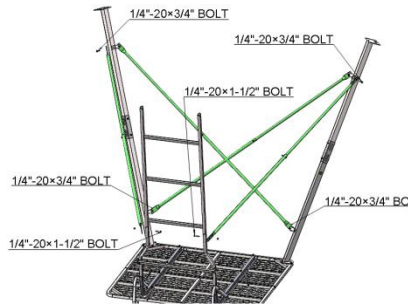

Figure 12
Step 12: Attach the four cross braces to the ladder section (TS305.02) and the leg by using two 1/4"-20×1-1/2" bolts (48240B), six 1/4"-20×3/4" bolts (48220B) and eight 1/4" lock nuts(48752B). Leave these hand tight for now (**Figure 12**).